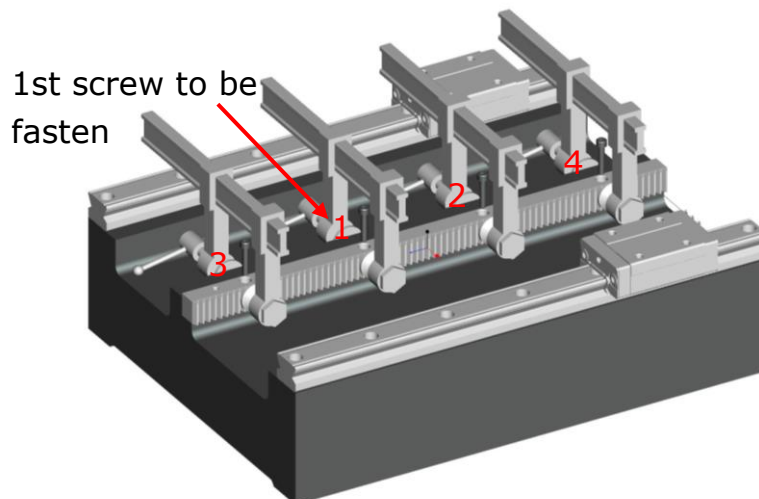

Fig. 6
- 3.4 Adjust the position of fixtures properly so that the rack can fully fit to the machine bed. According to the sequence shown in Fig. 6, tighten the screws with the rated torque as given in the Table 4, starting from the center to the both sides.